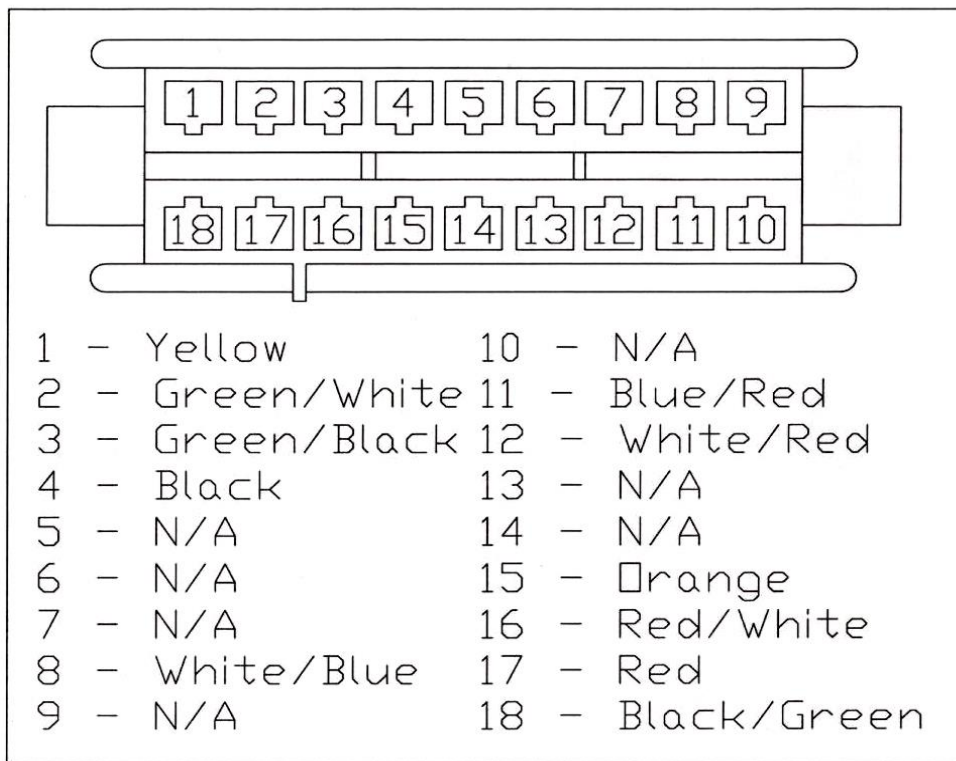
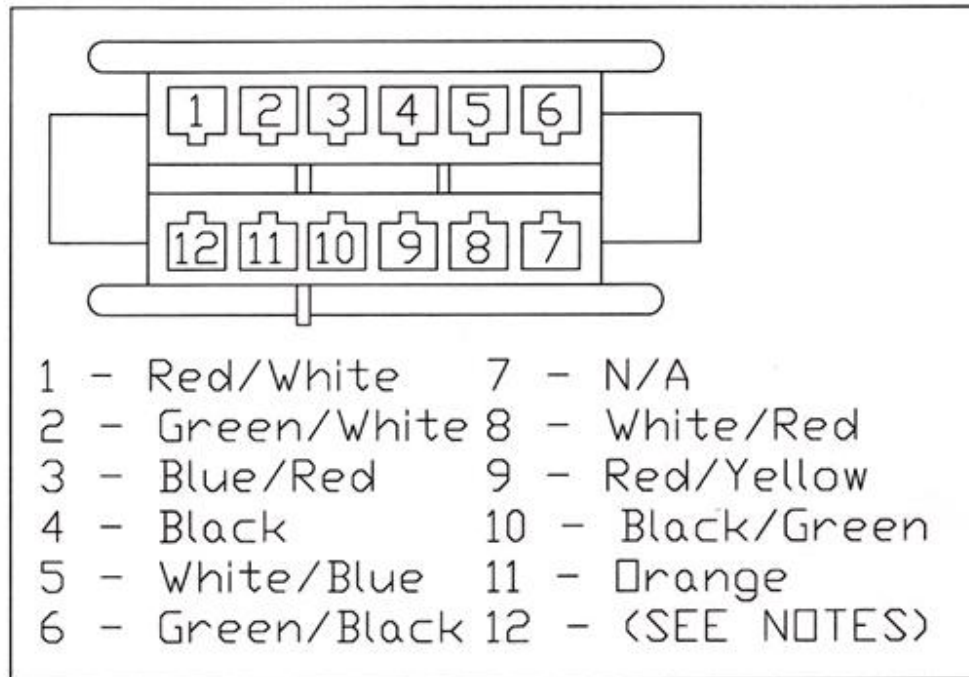
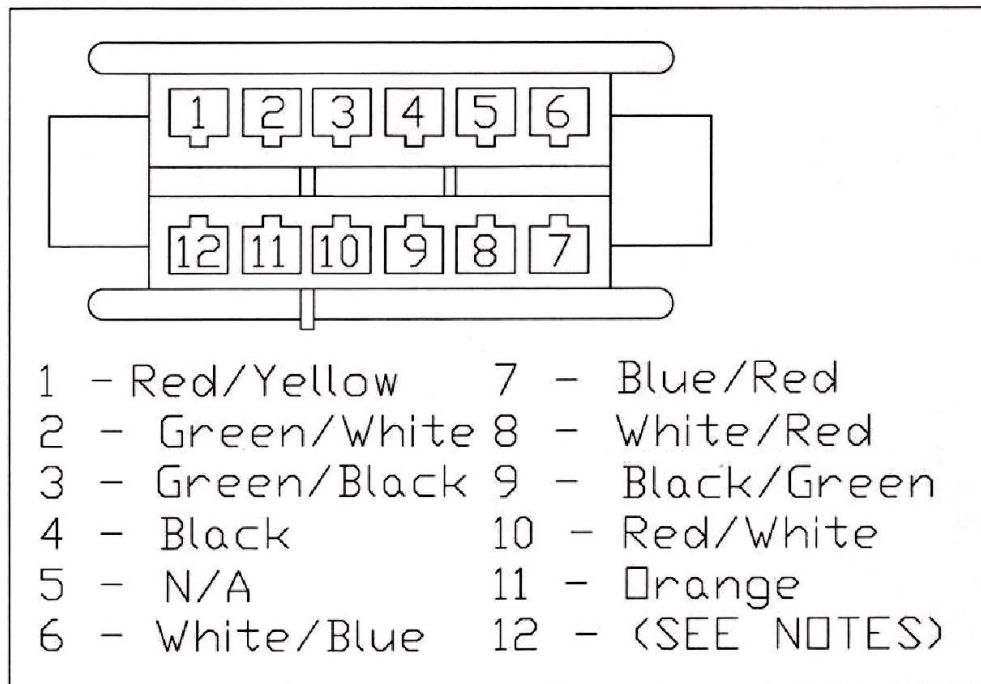

Figure 7-36 1971 (AND SOME 1972 MODELS) Cluster Pigtail Pinout
Figure 7-37A 1972 Cluster Pigtail Pin Out
Figure 7-37B 1972 Cluster Pigtail Pin Out
7.16.2 NOTES: For 1972 Models ONLY! There is at least three different possible pin outs for the 1972 gauge cluster that we have identified. If the factory cluster connector is an 18 pin connector you will use the pin out shown in Figure 7-36. If the factory cluster connector is a 12 pin connector and pin 7 is not populated you will use the pin out shown in Figure 7-37A. If the factory cluster connector is a 12 pin connector and pin 5 is not populated you will use the pin out shown in Figure 7-37B. Also, on the 1970 – 1974 Cluster Pigtail, remove the Green/Red wire from the #2 cavity on the white connector and install the single Green/Red wire with the Label "Green/Red 1972 Only" on it. Carefully tape up and stow the removed wire and be absolutely sure to insulate it from a ground.